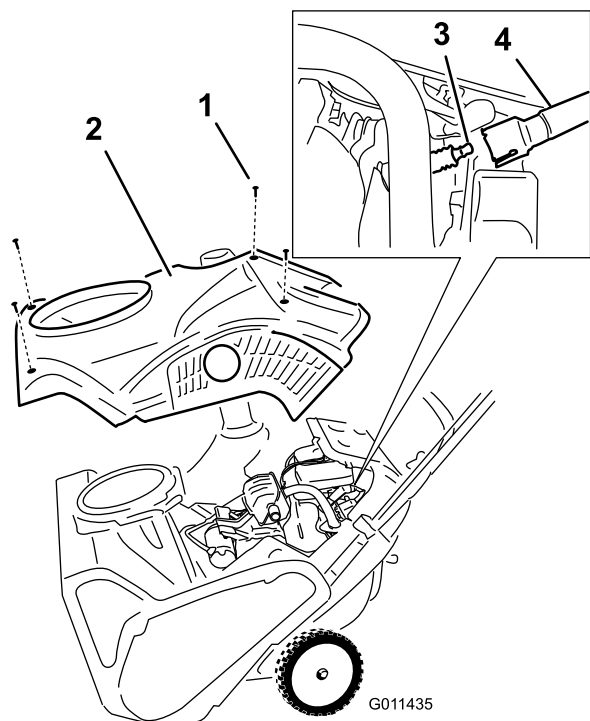

Figure 35
4. Remove the 4 screws that secure the shroud (Figure 35).
6. Remove the shroud (Figure 35).